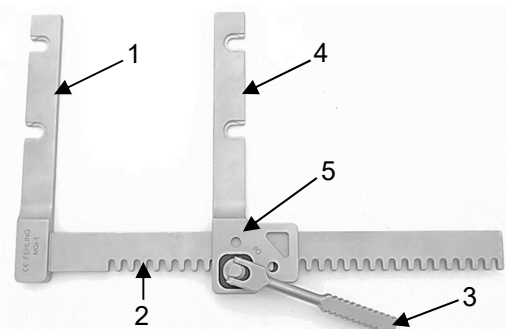

Fig. 6
Figure 6 illustrates the FALK sternal retractor, which is a U-shaped bar retractor with pinion. The bar retractor consists of one fixed retractor arm (1), a toothed rack (2) and one movable retractor arm (4).